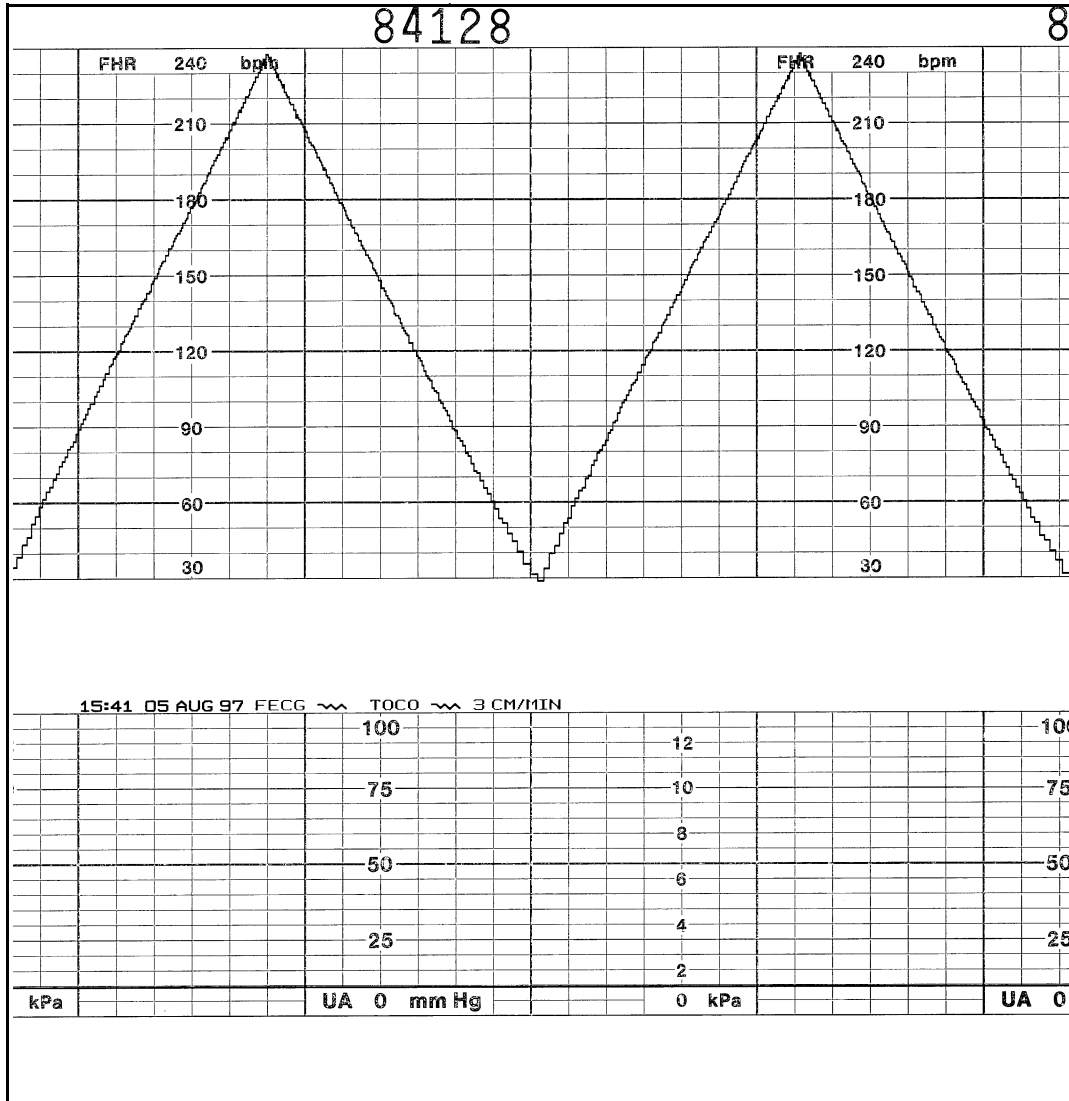

Figure 6-1. FECG Ramp
8. Set the simulator's **ECG Rate** switch to the RAMP setting. Verify that the monitor's FHR1 value counts between approximately 30 and 240 BPM and that the FHR1 trend is a ramp between the same values on the strip chart paper. (See Figure 6-1.)